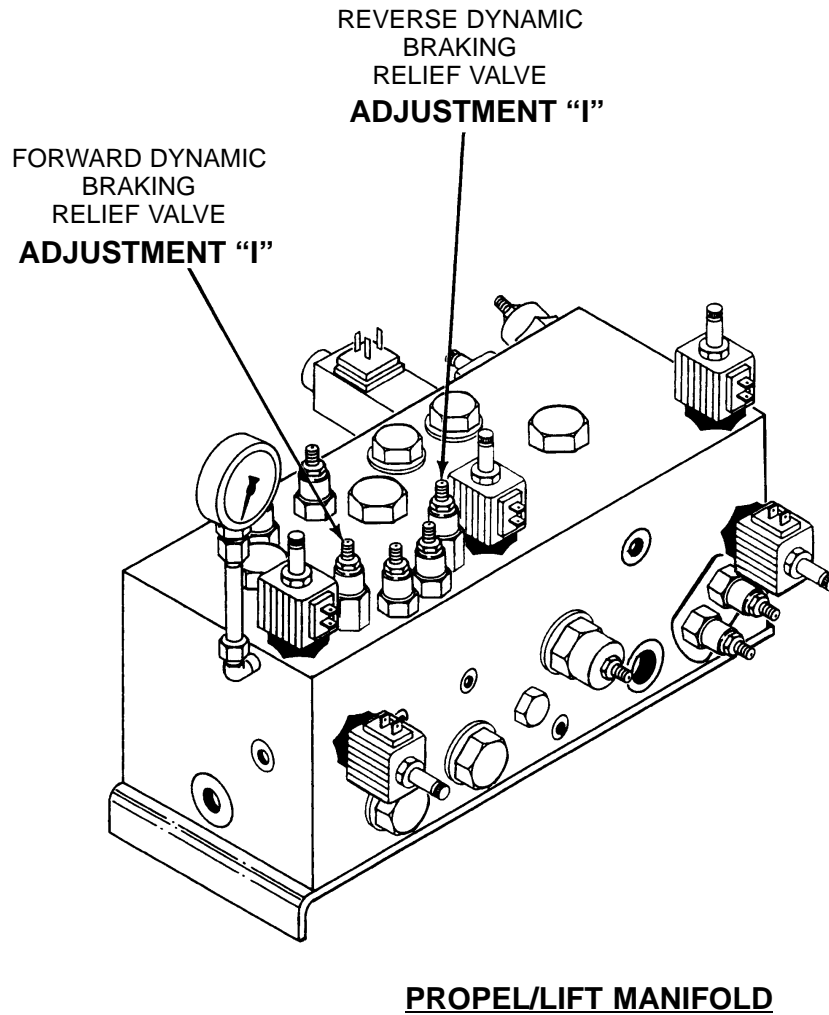

Figure 13
(10) Have assistant shut down power unit.
(11) Clean up any hydraulic oil that has leaked.
(12) Swing power unit closed and secure with retention bolt.
I. Dynamic Braking Adjustment (Figure 13)